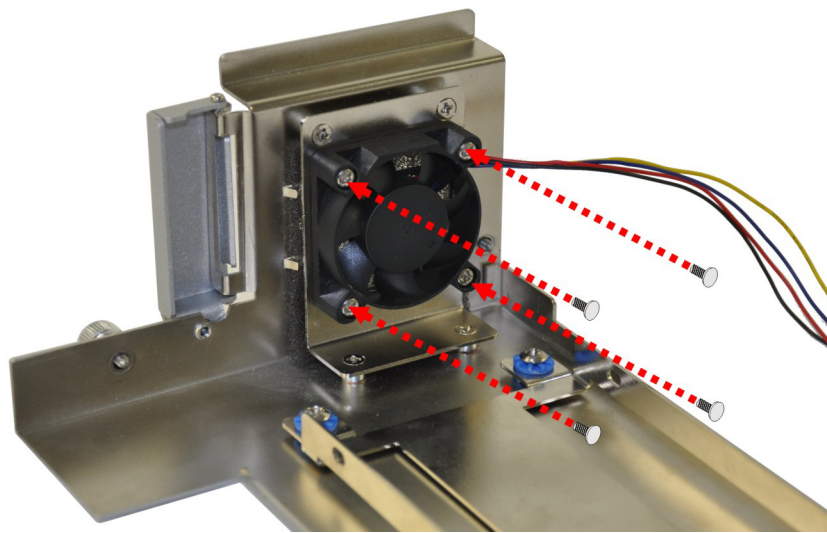

Figure 3-5: System Fan Installation
- Step 3:** Attach the system fan to the TANK-870-Q170 Series and secure it by four retention screws (**Figure 3-5**).